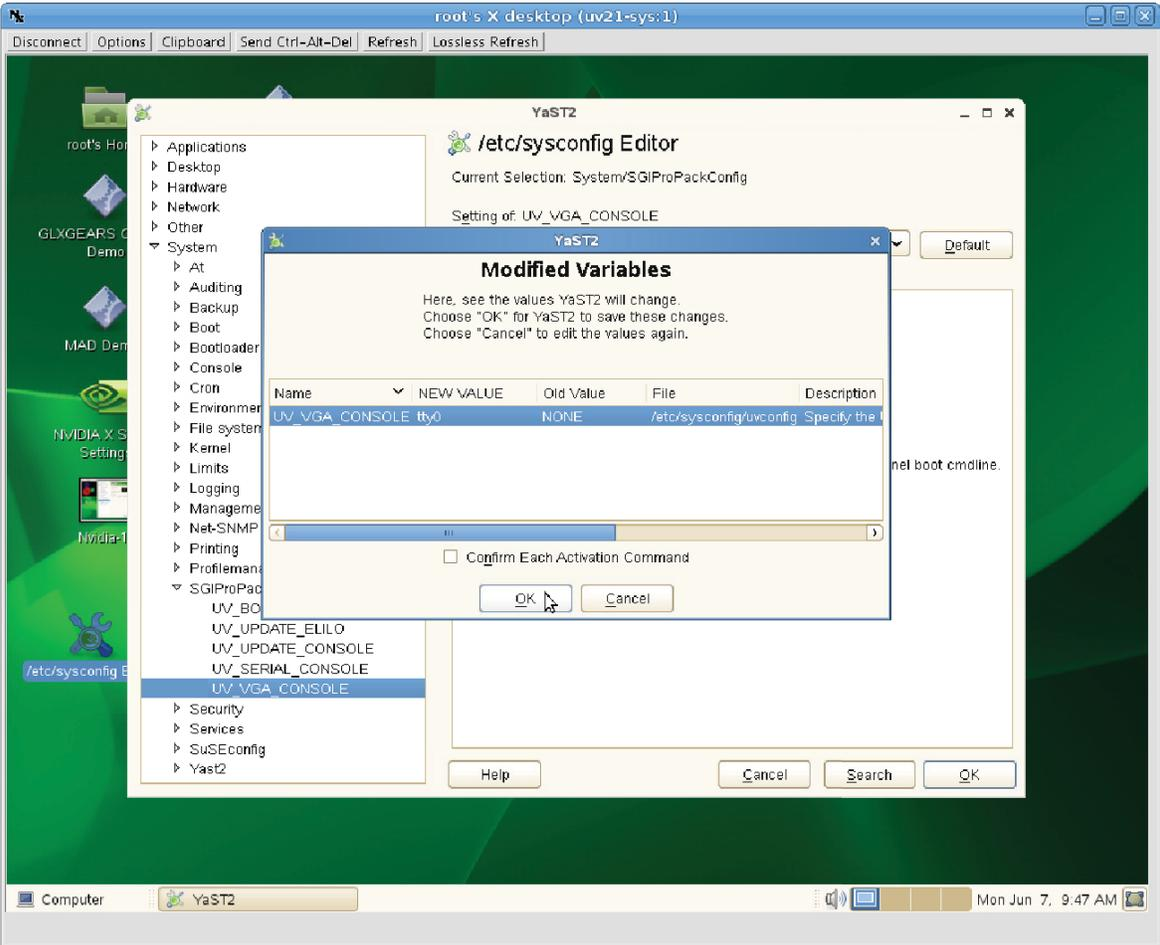

Figure 2-10 YAST 2 /etc/sysconfig Editor Modified Variables Screen
11. When the **Modified Variables** screen appears, as shown in Figure 2-10 on page 37, click **OK** to save your changes.